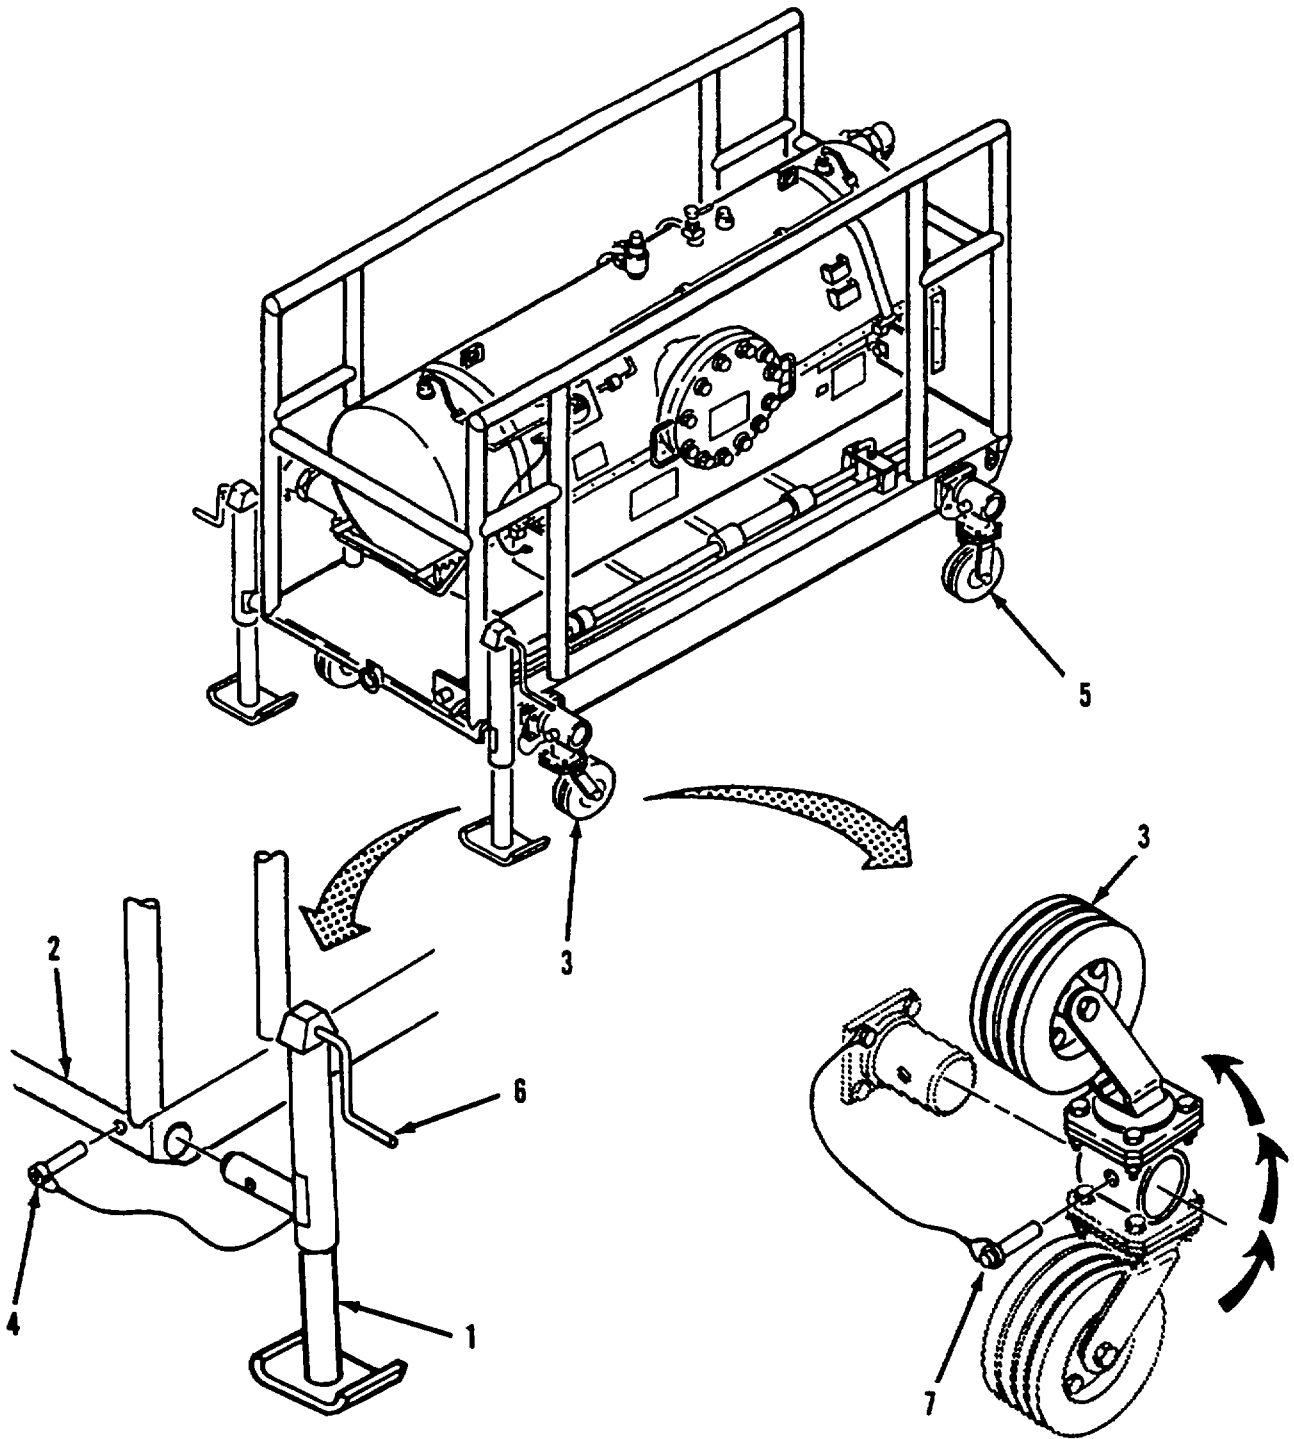

Figure 2-9. Retracting Wheels.
- c. Retracting Wheels. After transporting the filter-separator on its wheels, the wheels must be placed in the store position before operation. Perform the following procedures: (Refer to figure 2-9).